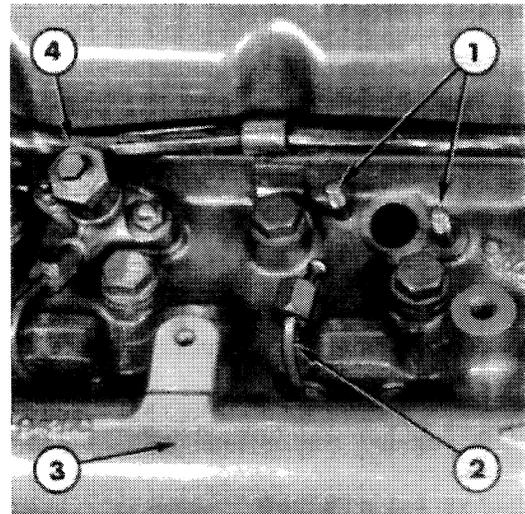

Figure 6
15. Disconnect the fuel injector leak-off pipes. Clean the area surrounding the fuel injectors then remove the stud nuts and carefully withdraw the fuel injectors and washers, Figure 6.